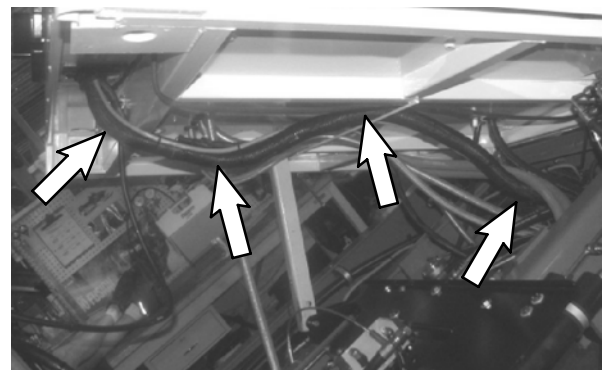

FIG. 22
38. Route the arrow stick cable assembly (2) underneath the cab along with the main wire harness. Use cable ties (12) to secure the arrow stick cable assembly to the wire harness. Refer to Fig. 22.